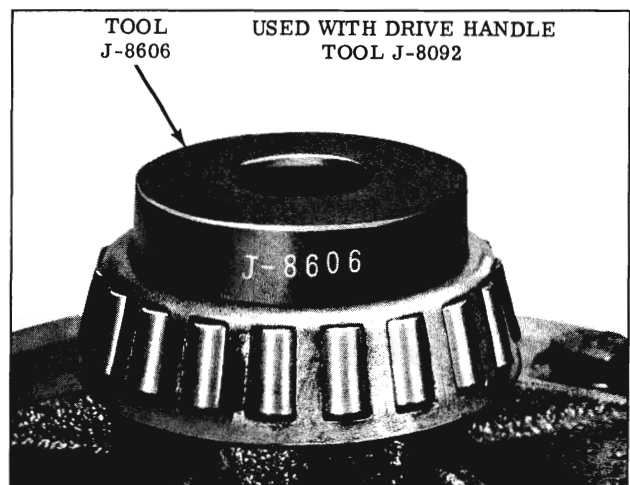

Fig. 6-112 Installing Side Bearings
Install bearings using Tool J-8606 and J-8092. (Fig. 6-112) Drive bearing onto case until seated.
1. If a differential side bearing assembly was removed, install bearing assembly on case using Tools J-8606 and J-8092 as shown in Fig. 6-112. Drive bearing onto case until seated.